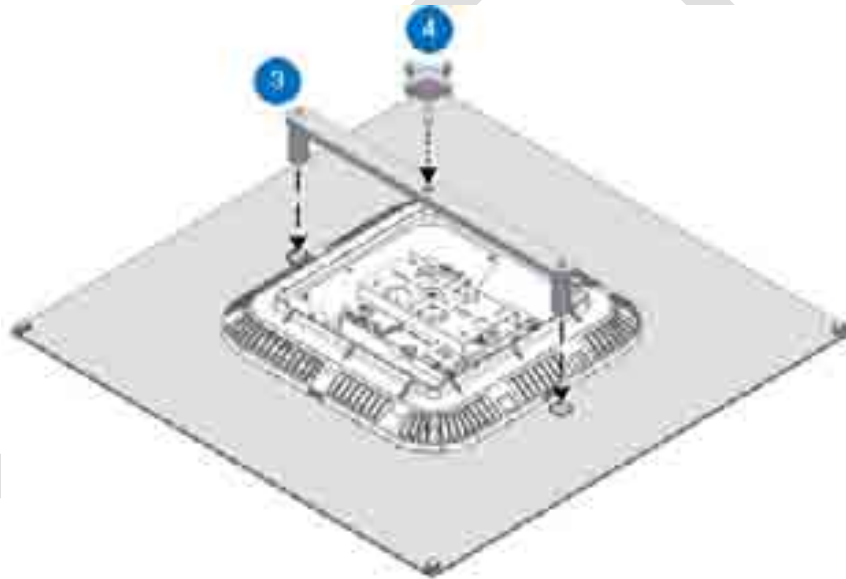

Figure 5-75. Assembling Flat Bar and Knob onto Plate
- Assemble Flat Bar (Item 3) and Knob (Item 4) as shown in Figure 5-75.